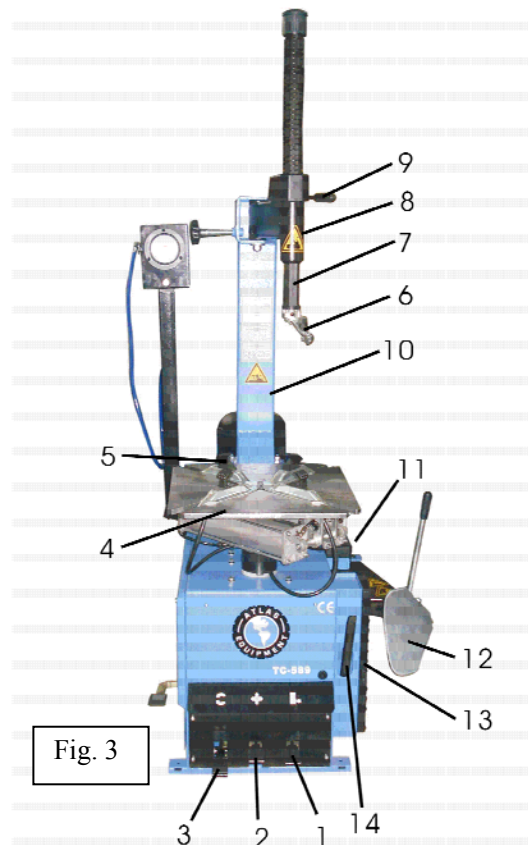

Fig. 2
The tire changer is shipped in a palletized wooden box with easy opening tabs. (Fig.2) Please use the easy opening tabs when uncrating the machine; rather than destroying the box and possibly damaging the tire changer
- STEP 2:** Depress the Reverse Pedal (3, Fig2) down; the turntable should turn in a clockwise direction. Pull the pedal up and the turntable should turn anticlockwise.
- STEP 3:** Press the bead breaker pedal (1, Fig2) to activate the paddle.
- STEP 4:** Press the jaw clamp pedal (2, Fig.2) once to open the four jaws.